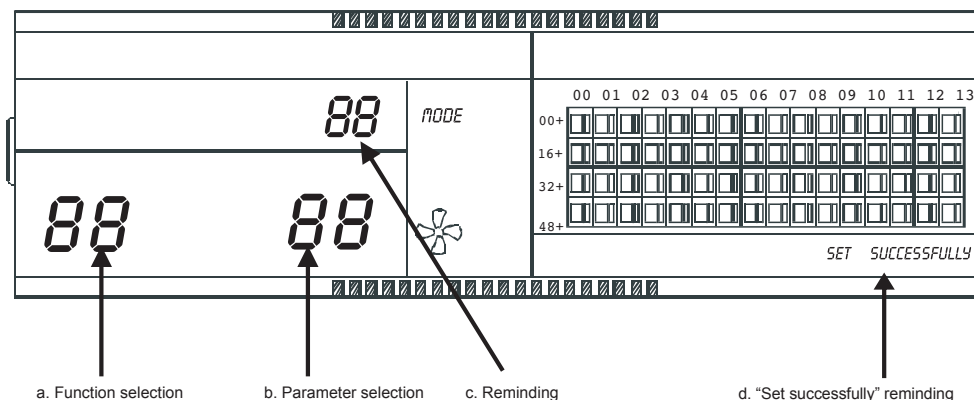

Fig 2.9 Filter net in addition to the dust function involves of show a contents
① Dial the dial code 3 to “ON”, select the “Has optional function” referring to table 2.1 to , and then power on the centralized controller, in 1 minute press “” key and hold on then press “” key, enter to optional function setting. Dual eight represented function selection (Fig.2.9 a) will be flashed with 1Hz frequency (default display 00), display the optional function code (see table 2.2). Press “” and “” keys to select function, and then press “” key to enter parameter selection.
② After enter parameter selection, dual eight represented function selection will be lighted on, dual eight represented parameter selection (Fig.2.9 b) will be flashed with 1Hz frequency, display optional parameter code. Through pressing “” and “” keys to select the detailed parameter.
③ Press “” to confirm parameter selection(details parameter codes’ corresponding time refer to table 2.3).
④ After setting successfully, Dual eight represented function selection and dual eight represented function selection will be lighted on, the screen will display “Setting successfully” (Fig. 2.9 d). After 3 seconds will auto exit optional function setting. The screen will back to normal display.